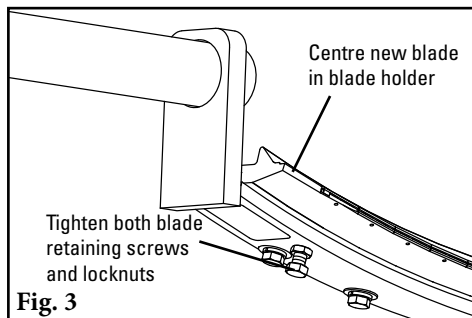

Fig. 3
- Centre the blade in the holder (Fig. 3).
- Tighten blade retaining screws 8 turns and tighten the blade retaining screw locknuts (Fig 3).